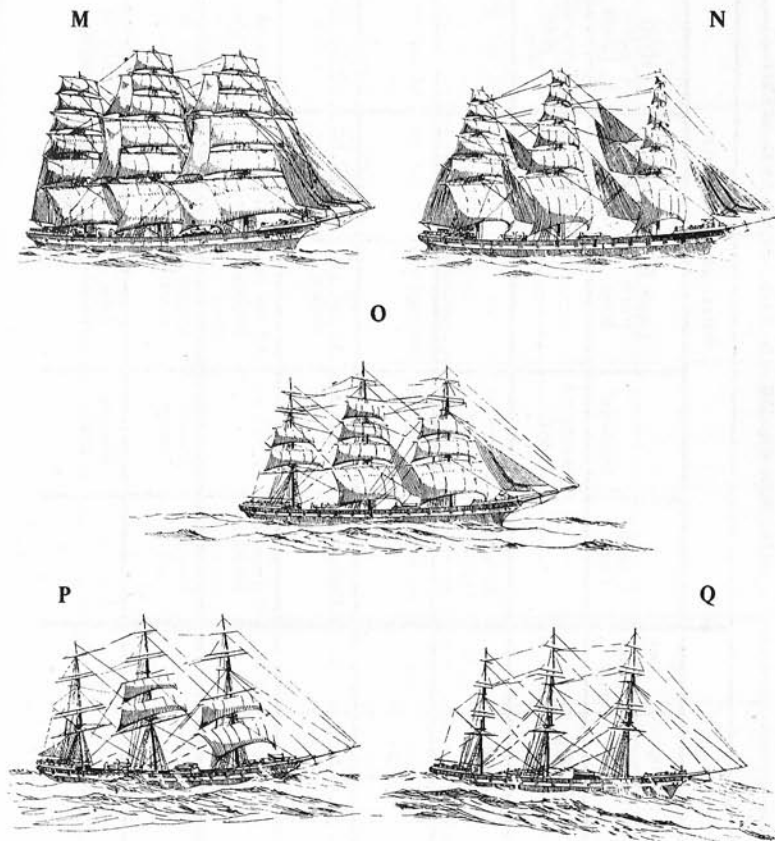

Fig. 29. Sketches showing sail carried under various conditions
Here are five sketches of the varying amounts of sail carried by an early windjammer. (See Fig. 29.) Heavy weather (O) is an addition of my own to the orthodox quartette of full sail (M), plain sail (N), storm sail (P), and bare poles (Q). Very little explanation is necessary here. A ship might run before a whole gale under bare poles; most ship masters, however, would heave-to under storm sail. Under-manned ships would be compelled to heave-to under almost any heavy weather conditions. Emigrant ships to the colonies, and wool clippers which usually had double crews and stout gear, would often run before a moderate or even a strong gale under plain sail. To me that was the